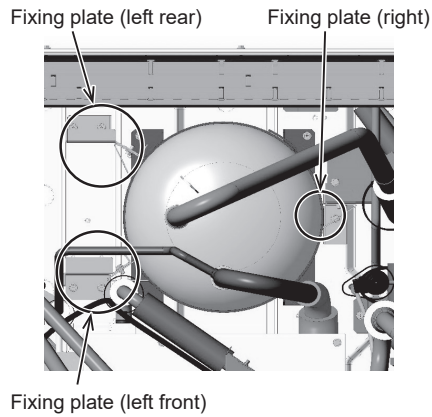

Figure 4
- (5) Remove the screws from the fixing plates (left front and left rear) holding the accumulator. (4 screws, Figures 4 and 5)
- (6) Remove the screws from the legs of the fixing plates (left front and left rear) holding the accumulator in place. (4 screws, Figures 4 and 6)
- (7) Remove the screws from the right fixing plate holding the accumulator. (2 screws, Figures 4 and 7)